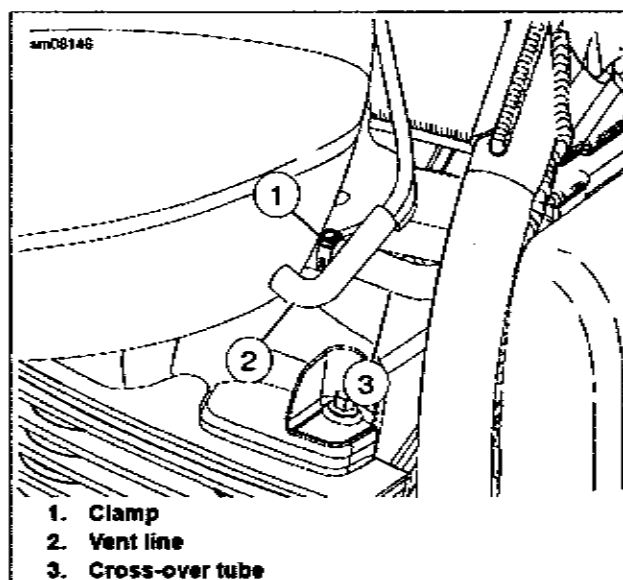
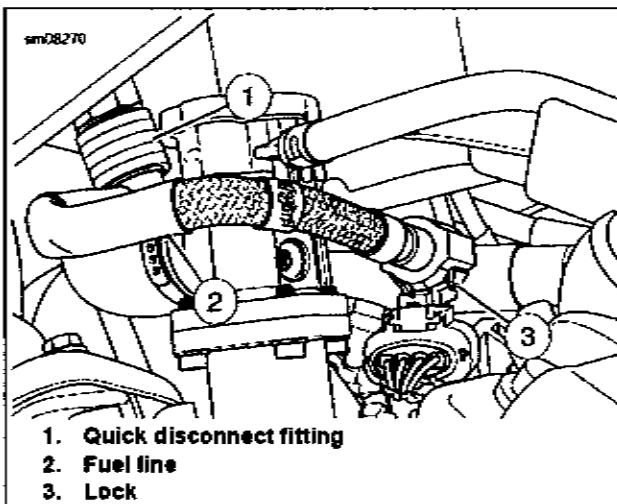
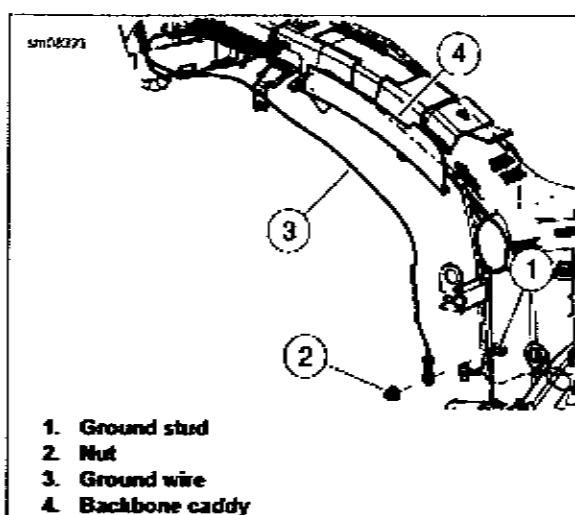
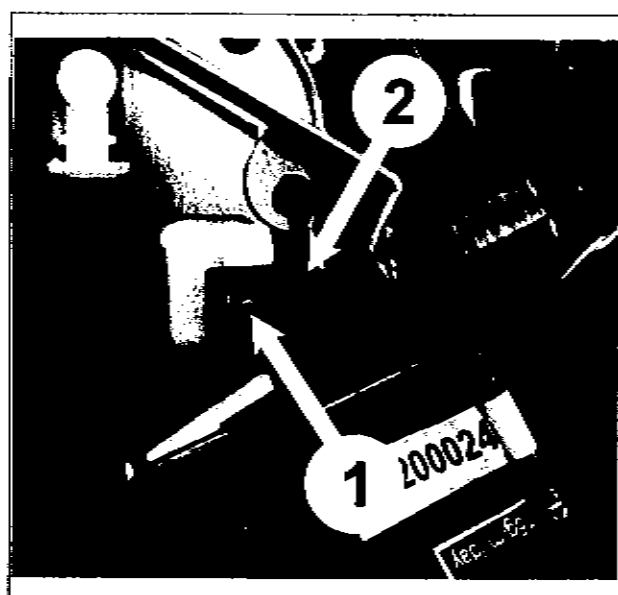

Figure 6-4. Cross-over Tube
Figure 6-7. Lower Fuel Line
Figure 6-6. Fuel Tank Ground Wire
Figure 6-8. Fuel Pump Assembly
7. See Figure 6-6. Remove fuel tank ground wire.
- a. Remove nut (2).
- b. Remove fuel tank ground wire (3) from ground stud (1) and backbone caddy (4).
8. See Figure 6-7. Remove lower fuel line.
- a. Push up on sleeve of quick disconnect fitting (1).
- b. Remove fuel line (2) from quick disconnect fitting.
- a. Lift connector latch (1) See Figure 6-8.
- b. Pull connector (2) out
10. See Figure 6-4. Remove vent line (2) from fuel tank.
2. Connect fuel pump connector. See Figure 6-8.
3. See Figure 6-6. Install fuel tank ground wire.
- a. Position ground wire (3) in backbone caddy (4) and along frame.
- b. Install ground wire over ground stud (1).
- c. Install nut (2). Tighten to 10-15 ft-lb (13-20 Nm).
4. See Figure 6-7. Install lower fuel line.
- a. Connect fuel line (2) to fuel rail.
- b. Engage lock (3) to secure fuel line to fuel rail.
- c. Press up on sleeve of quick disconnect fitting (1).
6. Install vent line (2) See Figure 6-4.